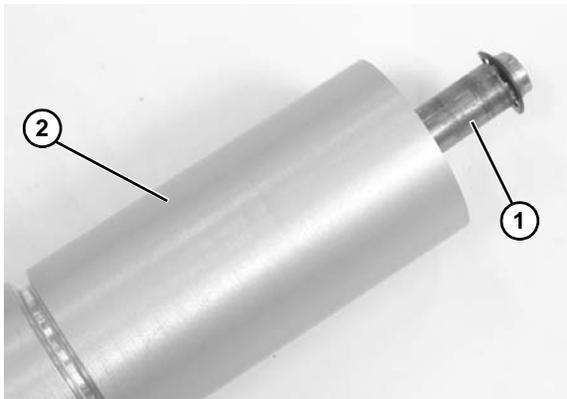

Figure 58
- Slide the shaft assembly (Figure 58, item 1) out of the pulley (Figure 58, item 2).